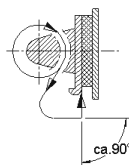
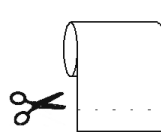
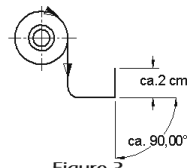

Figure 1
Figure 2
Figure 3
4. Insert new paper roll and make sure that it rotates clockwise during printing (see figure 1).
5. Cut a straight edge at the start of the roll using scissors (figure 2) and fold approx. 2cm of this edge opposite to the roll direction. Fold this section until it is about 90 degrees to the rest of the paper (figure 3). Insert the folded start of the roll into the paper feed slot as shown in figure 1.